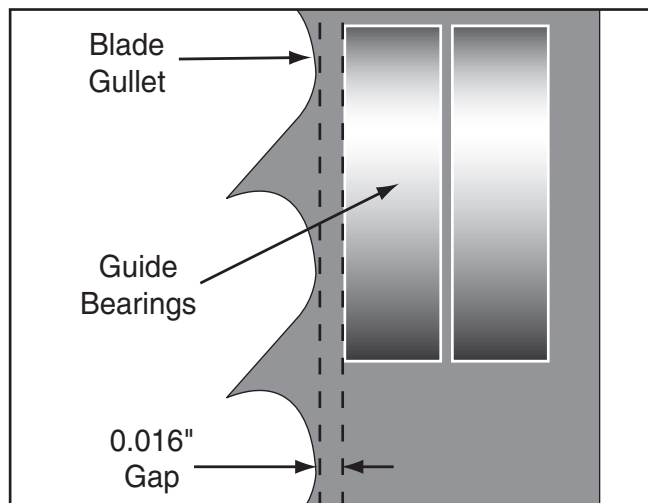

Figure 55. Lateral adjustment of blade guides.
3. Loosen the lateral rod cap screw and slide the guide block to position the blade guides approximately 0.016" behind the blade gullets, as illustrated in **Figure 55**.